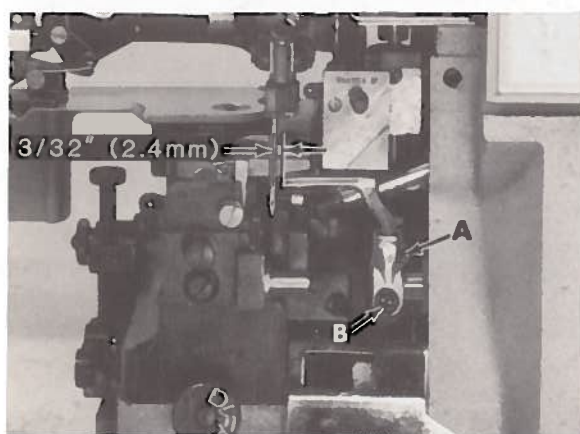

Fig. 16
front needle as shown in Fig. 16. Turn handwheel in operating direction until point of looper enters scarf on back side of needle. Move looper blade forward until it touches but does NOT deflect needle. Tighten binder screw (B).
Loosen screw (A, Fig. 16) and push looper down so that its shank rests on shaft. Rock looper blade to front and rear while tightening clamp screw (A). This will ensure the clamp screw is securing looper on flat surface of looper shank.
With looper to extreme right, loosen binder screw (B, Fig. 16). Position looper holder right or left so the point of looper is 3/32 inch (2.4mm) from centerline of